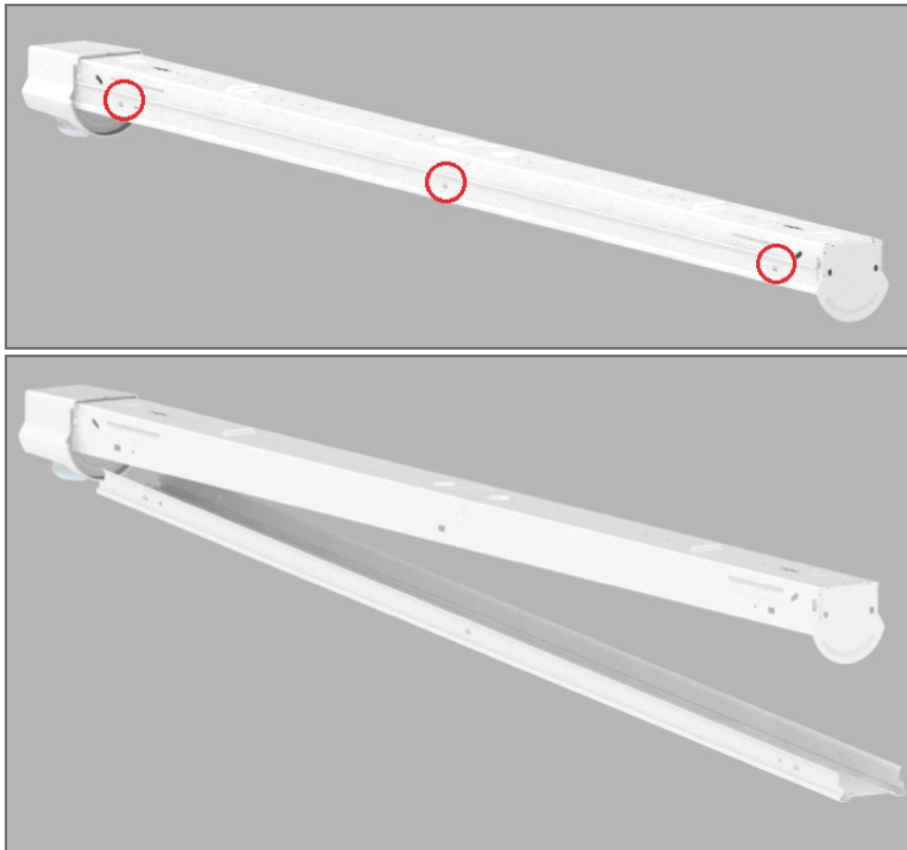

FIGURE 3
2. Starting from the side of the fixture without the sensor, squeeze the housing above each of the engagement points (circled in red in Figure 3) and separate the reflector plate from the housing, pulling at an angle to clear the sensor.